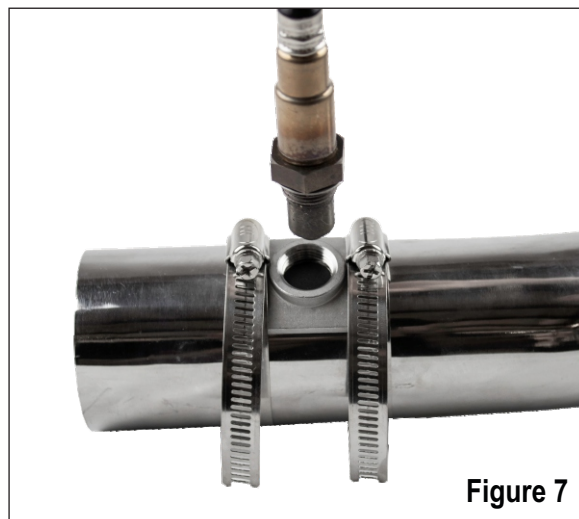

Figure 7
H. Install the sensor into the bung, see figure 7. Apply a small amount of anti-seize on the threads of the O₂ sensor. Be very careful not to get any anti-seize on the tip of the sensor itself because it will cause it to prematurely fail.